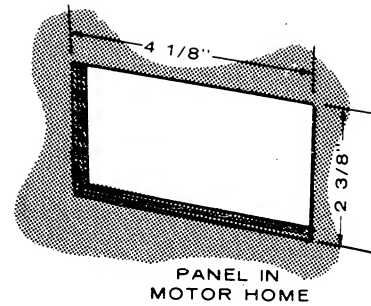

FIGURE 18. MOTOR HOME CUTOUT
1. Select control location. Using Figure 18 as a guide, drill screw holes and cut hole to accommodate remote switch in panel.